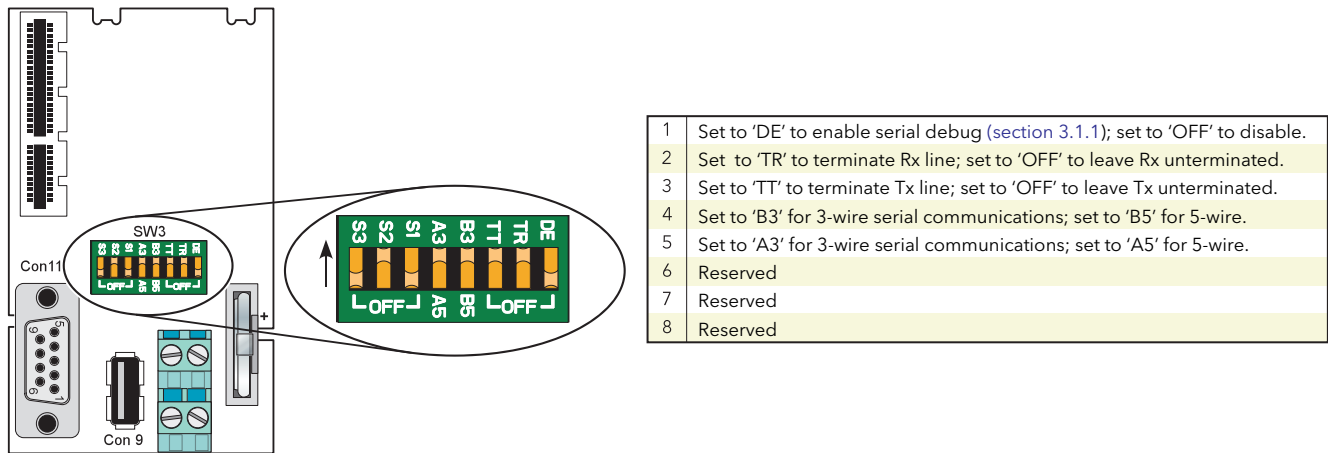

Figure 2.3.1c Communications hardware configuration details
2. 3-wire/5-wire working is selected using the eight-element slider switch (SW3) located on the IOC terminal board. The Tx and Rx lines can also be terminated (with 150Ω resistors) using other elements of this switch. See figure 2.3.1c for details.